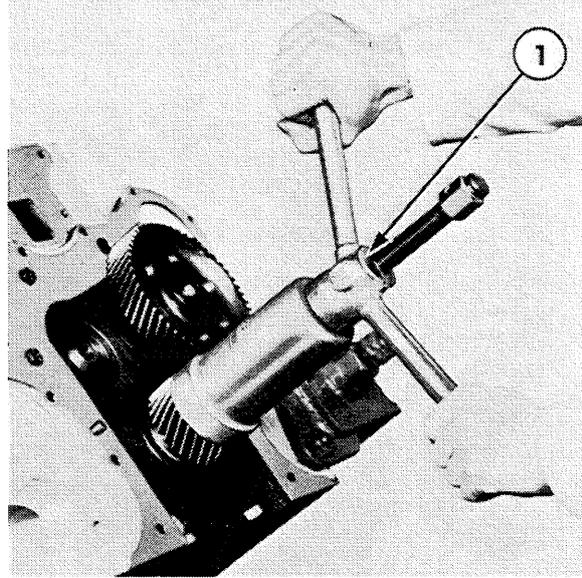

Figure 24
2. Locate the key then use Tool No. CT.6069-A or 2134 and CT.6069-1 or 1237 to install the crankshaft gear, Figure 24.